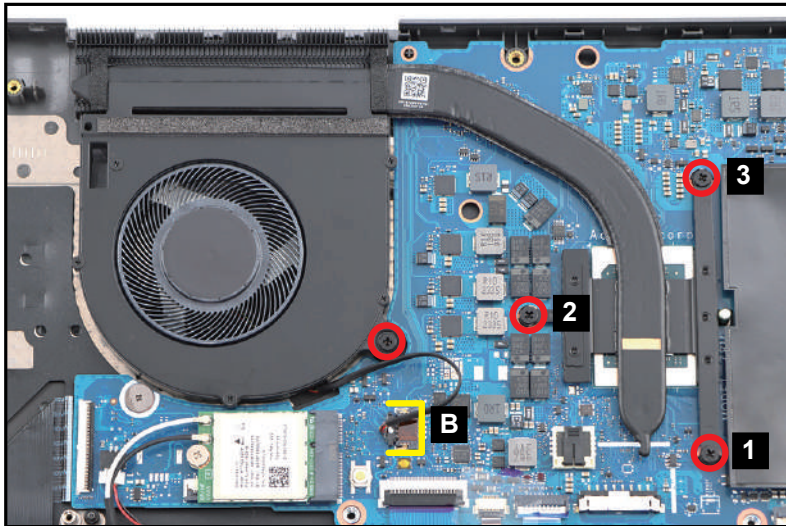

Figure 3-140. Replacing the Thermal Module
4. Install one (1) screw to secure the fan. Then install and secure another three (3) screws in numerical order from one (1) to three (3) to the heatsink (Figure 3-140). Ensure the heatsink is properly aligned and seated.
5. Connect the fan cable to the mainboard connector (B) (Figure 3-140).